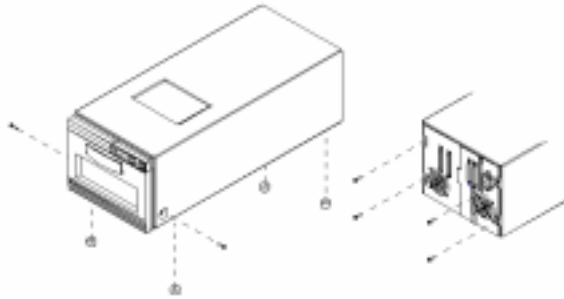

FIGURE 5-1 Removing the Feet
- a. **On the failed unit, remove the four screws on the back of the cover and the two screws on the side of the cover (FIGURE 5-1 on page 5-3).**
5. **Install the cover and feet in the same position as** FIGURE 5-1.